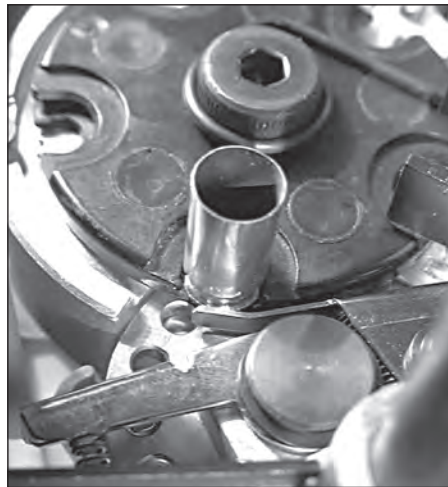

FIG 195
3. Adjust the locator tab so that the tab just clears the case **FIG 195**. The objective here is, with the case fully inserted into the shellplate, the locator tab should not come into contact with the case. However, the tab should be close enough so as to not allow the case to lose its position in the shellplate. The distance between the locator tab and the case should be about .010" or about the thickness of a business card.